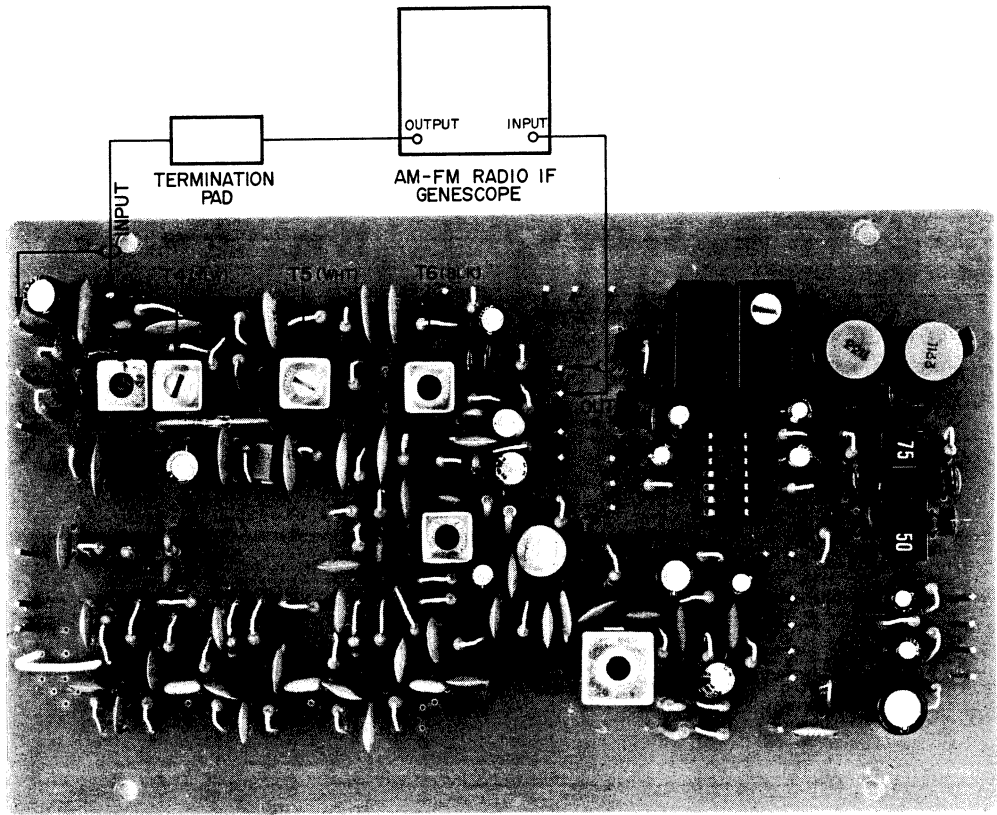

Fig. 12 INSTRUMENT CONNECTIONS
- 1) Connect the AM-FM Radio IF GENESCOPE (hereinafter referred to as GENESCO) lead wires to input terminal as well as output terminal of the FM-AM IF & MPX P.C. Board as shown in Fig. 12.